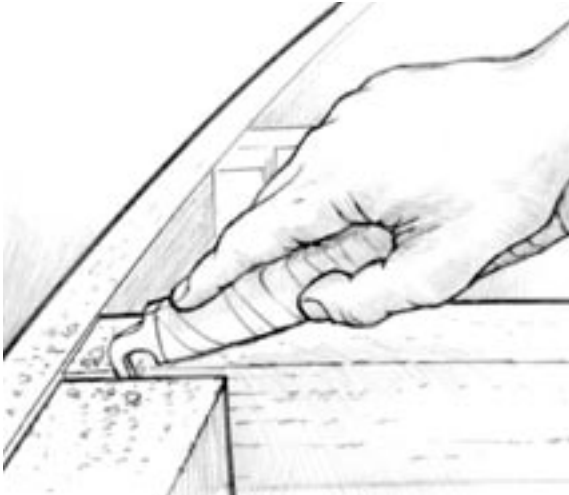

Figure 5-7 Use a scraping tool to clean out and abrade the inner joint surfaces.
2. Open as many of the joints as possible, between frames and between frames and the outer skin. Loosen fasteners wherever possible. A small crow bar or wedge may be used to force the joint open temporarily. Use a saw blade or other sharp tool to scrape out old paint, varnish or dirt from the joints (*Figure 5-7*). Clean the inner joint surfaces to bare wood as much as possible.